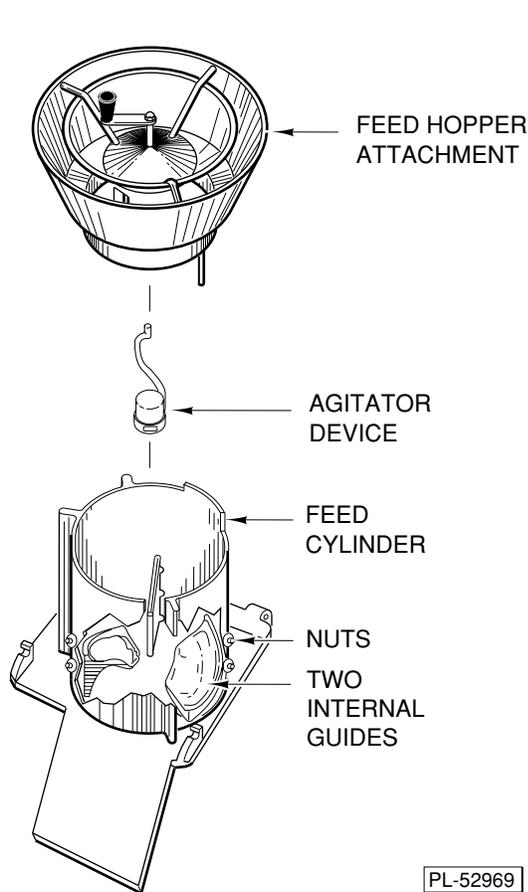
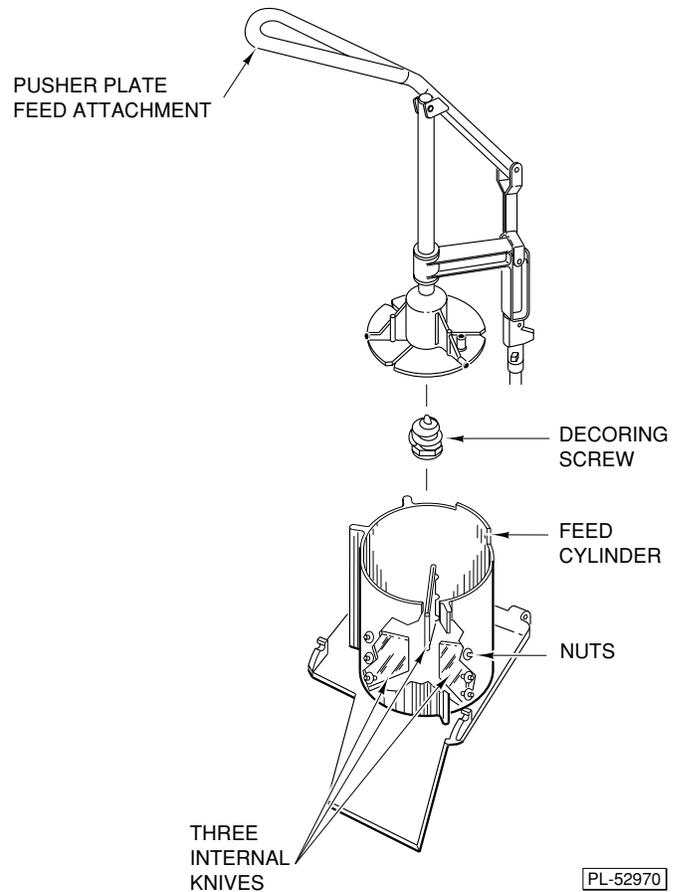

Fig. 7
Fig. 8
The feed hopper attachment (Fig. 7) is used mainly for cutting round products up to 3" (76 mm) in diameter. The pusher plate feed attachment (Fig. 8) can be used for any type product.
2. Fit the feed cylinder with two internal guides (Fig. 7).
2. Remove the feed cylinder. The feed cylinder guides (see Fig. 7) OR the three knives (see Fig. 8) may be removed for cleaning by unscrewing the nuts (see Fig's. 7 & 8) with the wrench provided. Rinse all parts with lukewarm water.